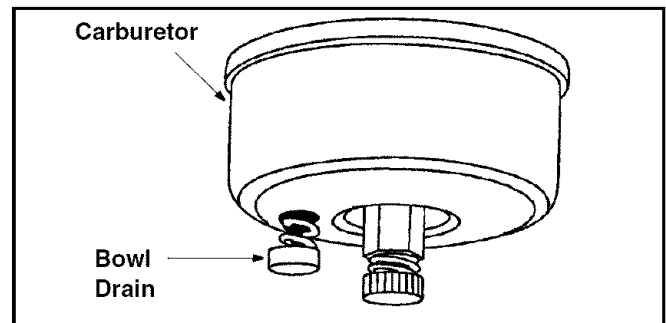

Figure 15
3. Drain carburetor by pressing upward on bowl drain, located below the carburetor cover. See Figure 15.